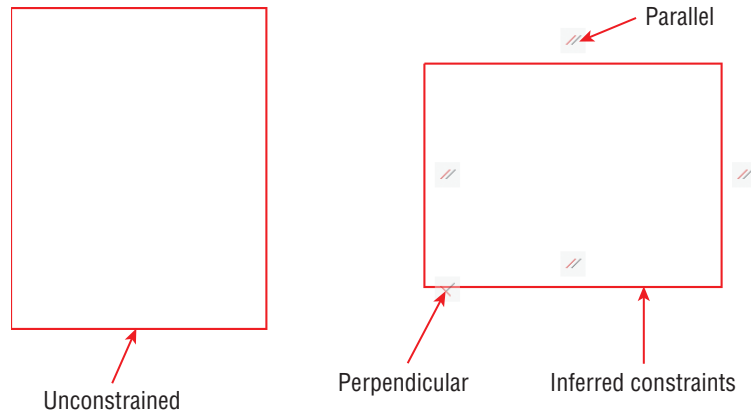

FIGURE 12.1 Drawing two rectangles, one unconstrained
- Press the spacebar to repeat the **RECTANG** (for Rectangle) command, and then click two more points to draw another arbitrarily sized rectangle adjacent and to the right of the first one (see Figure 12.1). AutoCAD automatically infers perpendicular and parallel constraints from the geometry of the second rectangle.